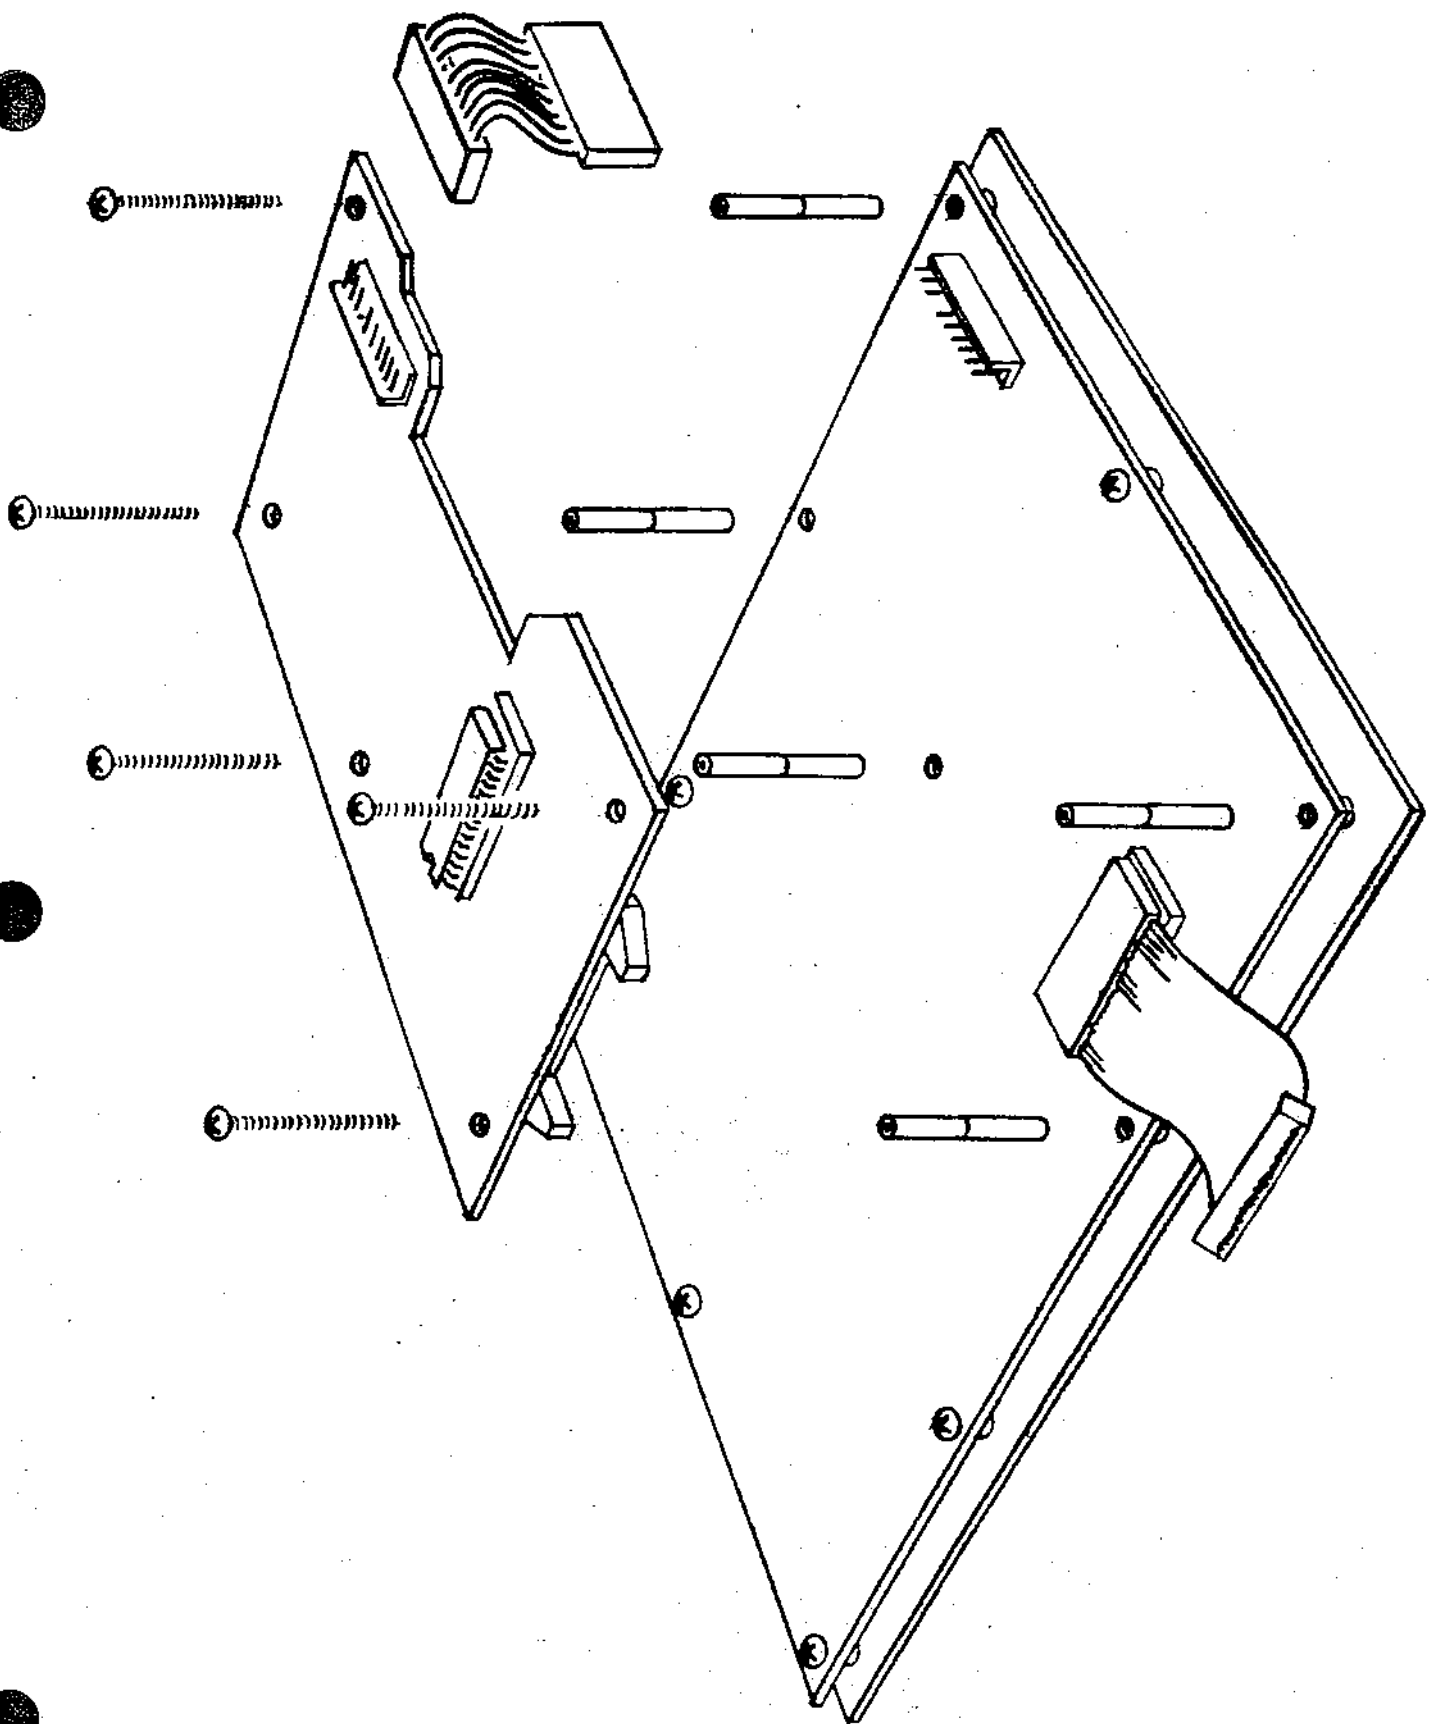

FIGURE 4
- 4) Remove the Z-80B microprocessor from location U99 of the main logic board and reinstall it at location U13 of the I/O expansion board. Install the I/O expansion board as shown in figure 4.